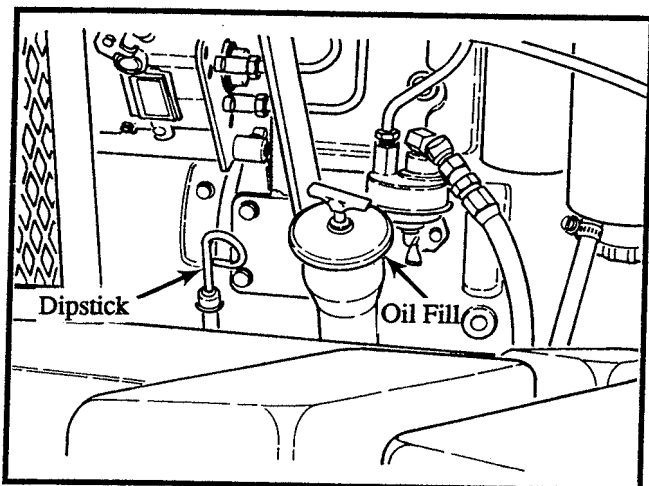

Figure 10-3. Engine Oil Fill and Dipstick
7. Fill engine crankcase with SAE 15W40 CD (MIL-L-2104) motor oil to the full mark on the dipstick. Refer to Figure 10-3.